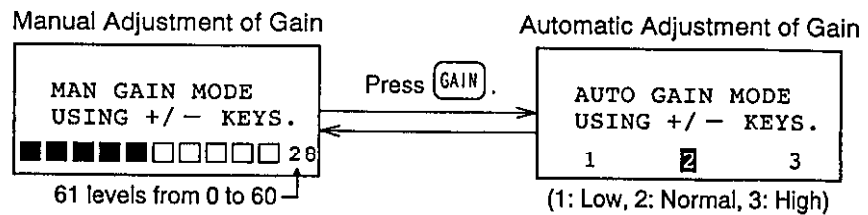

Figure 2-5 Manual and automatic GAIN adjustment displays
- 2) Press the **GAIN** key to select manual or automatic adjustment. One of the displays in Figure 2-5 appears.